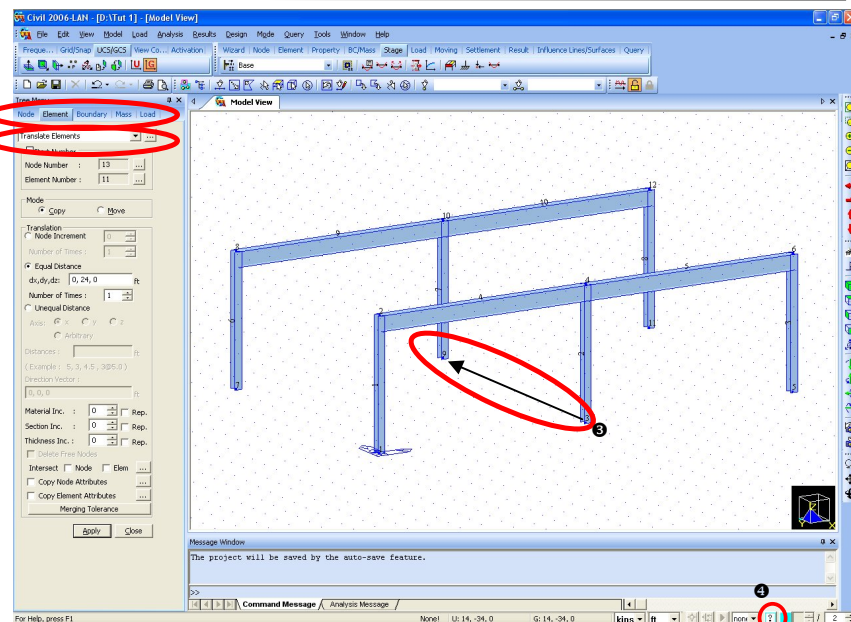

Figure 1.10 Duplication of 2-D Frame
When switching from the current modeling function to another function, the Main Menu or Tree Menu can be used. In the case of mutually related functions (example: *Create Elements*, *Translate Elements*, etc.), MIDAS/Civil enables the user to switch directly using the functions selection field (Fig.1.10–❷).
Where the functions are remotely related or unrelated, it is recommended that the *Model Entity* tabs shown in Fig.1.10–❶ be used (*Node*, *Element*, *Boun...*, *Mass*, *Load*).
4. Select **Translate Elements** from the functions selection field (Fig.1.10–2).
Ⓜ Instead of typing in the values for dx, dy, dz, the distance and direction of the position to be moved/duplicated can be defined with the mouse cursor using Mouse Editor (Fig.1.10–3).
Ⓜ In Fig.1.10:
Ⓜ Fast Query shows the attributes of the snapped nodes or elements which are off  in Fig.1.10–3. The attributes that can be verified by Fast Query are as follows: Node number, coordinate, element number, element type, material properties/section ID/thickness ID of element, Beta Angle, linked node numbers and length/area/volume of element.